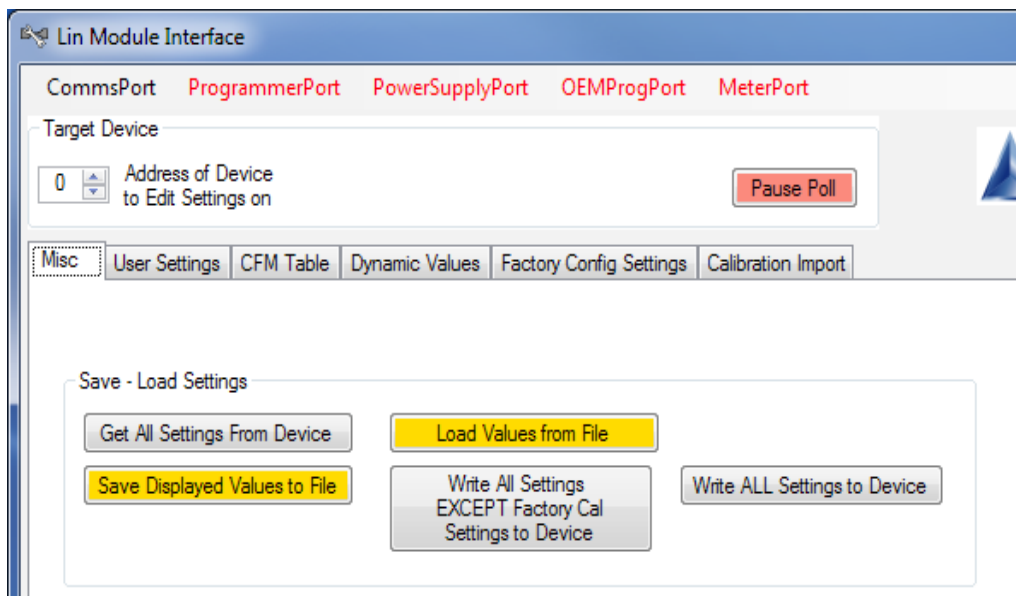

Figure 4. Misc Tab
3. A copy of these settings can be saved to your computer by clicking the Save Displayed Values to File button (see Figure 4).
Note: This will save the values shown in the fields on the configuration software, not what is in the UVM, unless the Get All Settings From Device button has been clicked and the process of getting the setting has completed (see Figure 4).
The serial number and calibration date can be changed and programmed into the unit by clicking the Set Serial Number or Set Calibration Date buttons (these buttons are cropped from the Figure 4 screen shot).